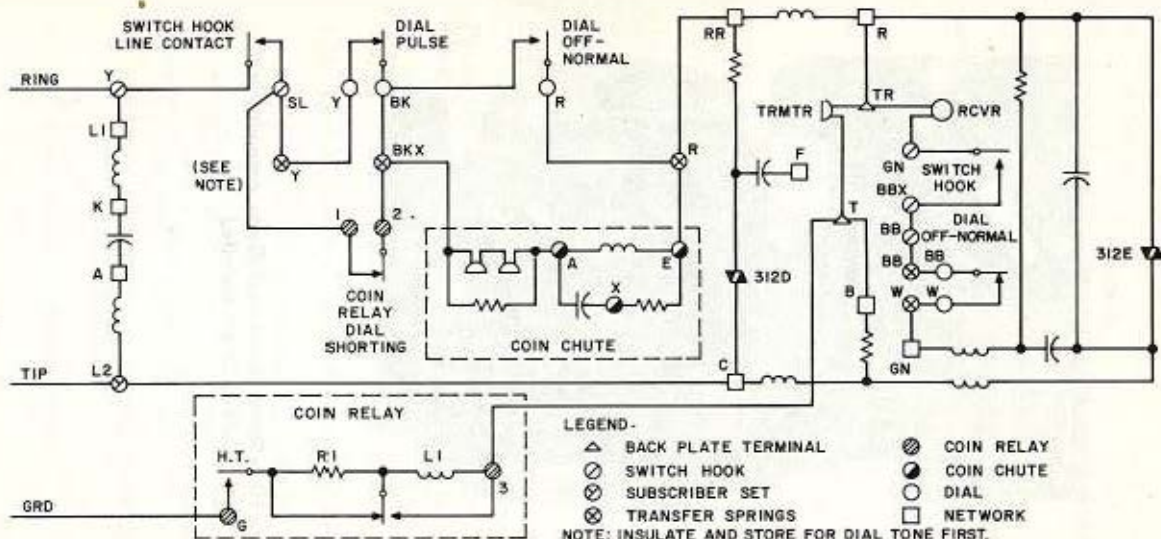

Fig. 11 - 234G Coin Collector with 685A Subscriber Set
- Fig. 11 — 234G Coin Collector with 685A Subscriber Set